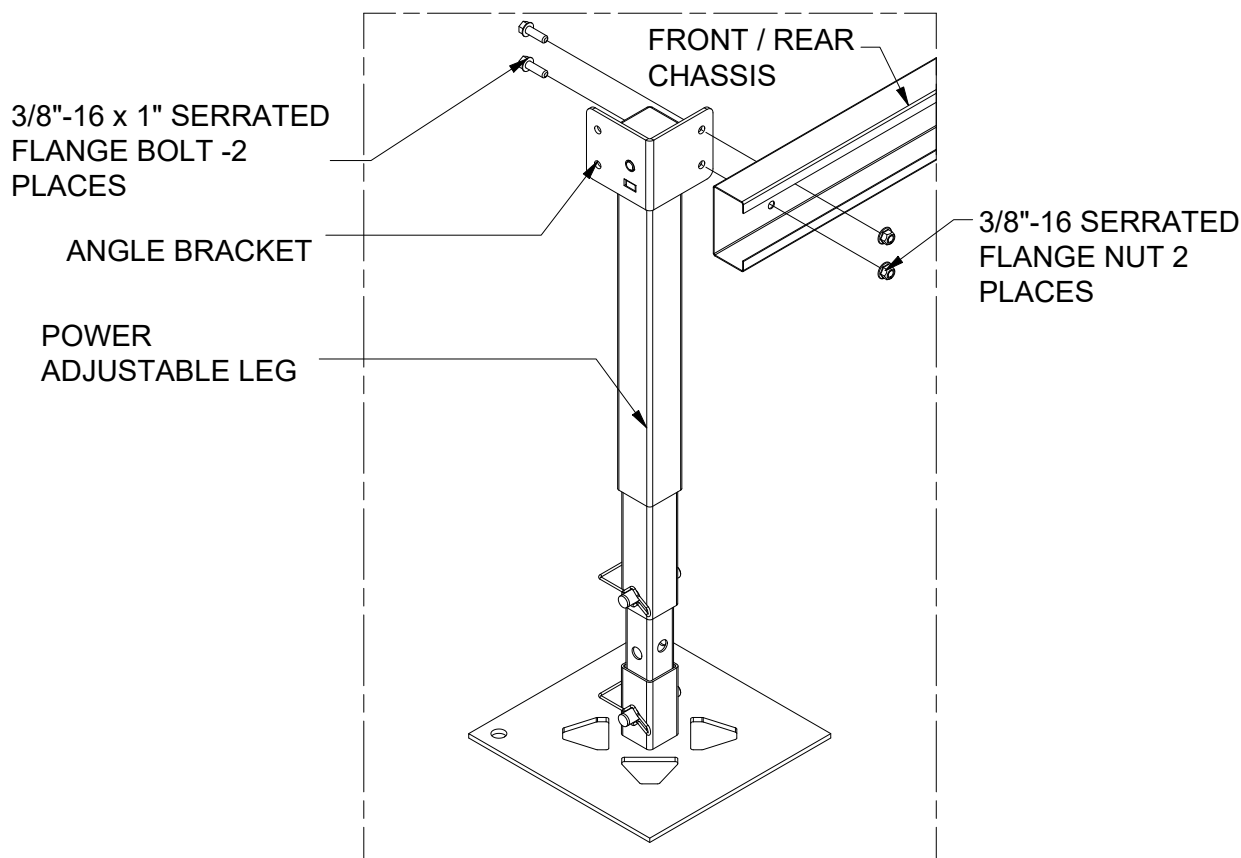

FIGURE 3: Front/Rear Chassis to Angle Bracket on Power Adjustable Leg
2. Next place the Front & Rear Chassis lengthwise at the location of the first PowerPlatform. Attach to the Angle Bracket of the Power Adjustable Leg with (2) 3/8"-16 x 1" serrated flange bolts and nuts making sure to align the Leg as seen below for the outside corners. See Figure 3 below: